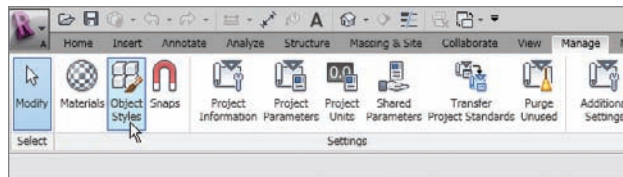

FIGURE 12.1 Object Styles is located to the left of the Manage tab.
2. Notice the perimeter of the walls and the roof are extremely heavy in contrast to the finer lines that divide the submaterials. This is what we will change. On the Settings panel of the Manage tab, click the Object Styles button to the left of the Ribbon, as shown in Figure 12.1.